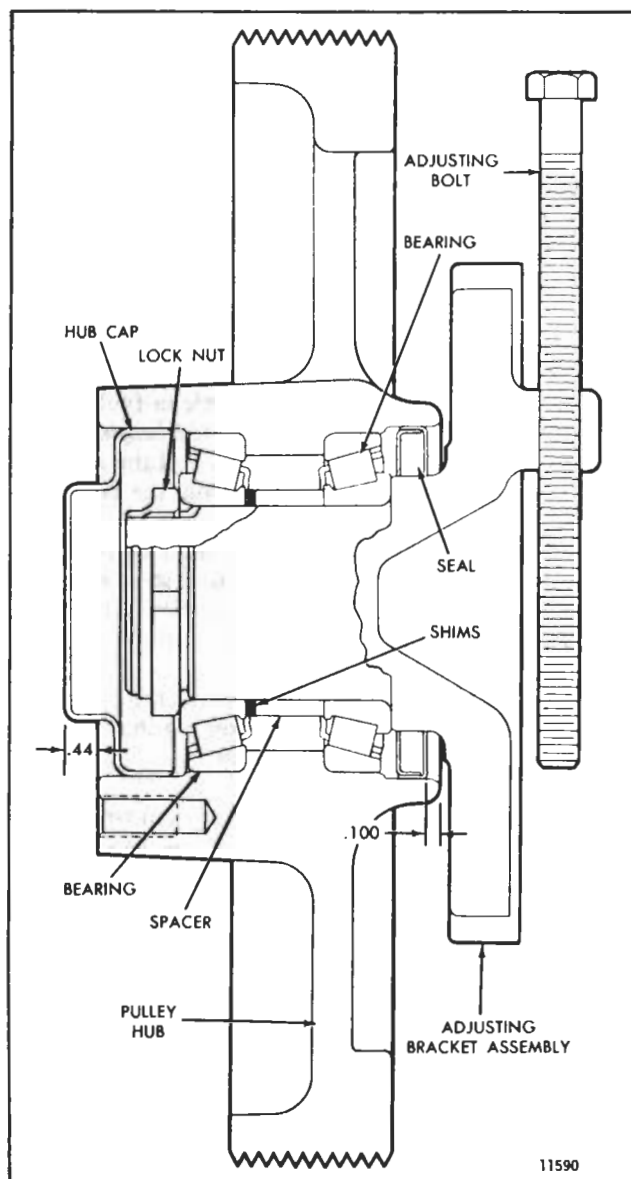

Fig. 4 - Typical 16V Engine Poly-V Groove Pulley Hub and Adjusting Bracket
The three groove pulley hub (Fig. 2), used on 6V, 8V and certain 16V engines, turns on a double-row ball bearing at the front and a single-row (shielded) ball bearing at the rear of the hub. On 6V and 8V compact front end engines, the pulley hub turns on tapered roller bearings (Fig. 3). The Poly-V groove pulley hub used on some 16V engines turns on two single-row tapered roller bearings (Fig. 4).
3. Press a new oil seal in .100" from the end of the pulley hub (Fig. 4).
11. Fill a new hub cap 75% (minimum) full of grease and install it in the pulley hub (Fig. 4).